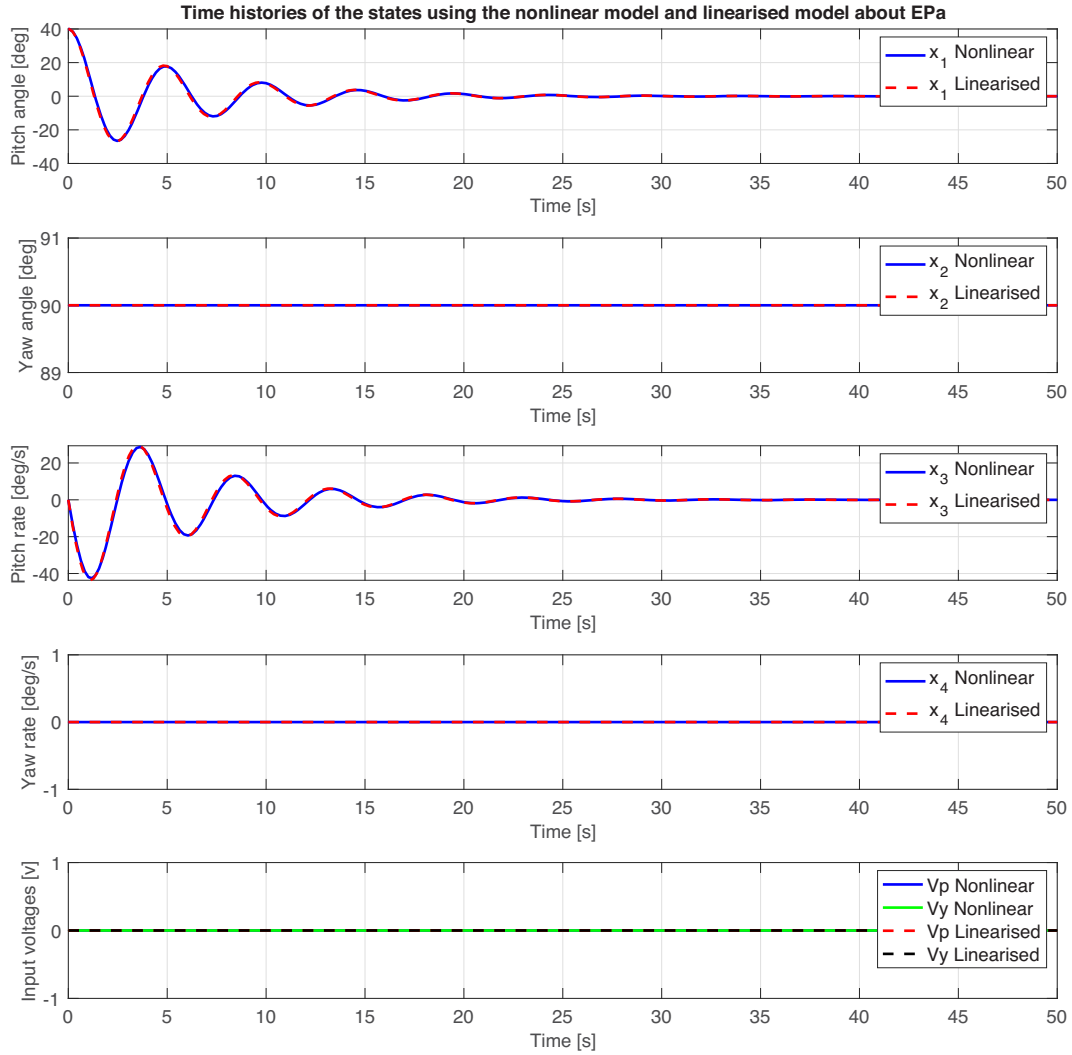

Figure 6: Time histories of the states and input voltages.
3. Plots the time histories of the states from both the nonlinear system and linear approximation against each other. Plot the states $x_1(t)$ and its linear approximation $x_{1a}(t) + \bar{x}_{1a}$ on top of each other in one graph, then plot $x_2(t)$ and $x_{2a}(t) + \bar{x}_{2a}$ together on another graph, and so on. Sample results for the initial conditions $x_1(0) = 40$ deg, $x_2(0) = 90$ deg, $x_3(0) = 0$ deg/s and $x_4(0) = 0$ deg/s, $V_p = 0$ v and $V_y = 0$ are shown in Figure 6.